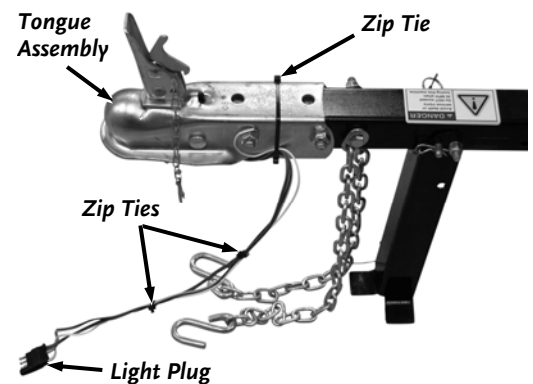

Figure 14
18. Secure the Wires to the Tongue Assembly between the two large Bolts to ensure they will not get caught between the Tongue and Ball of the Tow vehicle (**Figure 14**).